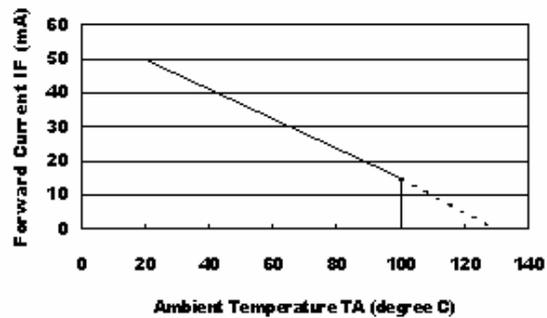

Fig.3 Forward Current Derating Curve
5. The maximum junction temperature is under 130 degree C. (Fig. 3)